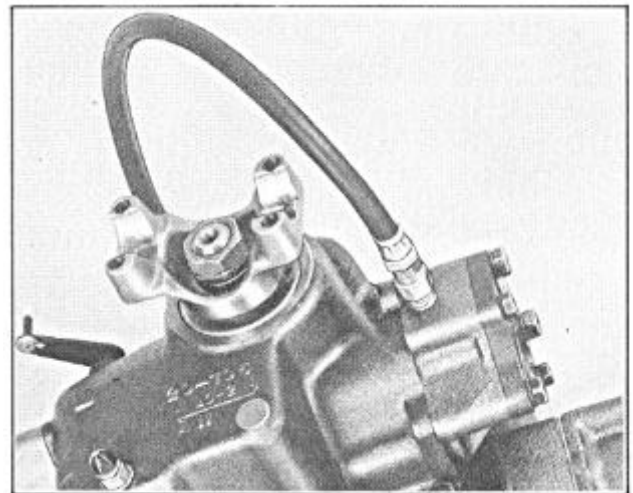

FIGURE 155
1. With the engine stopped, remove the 1/4" pipe plug from the rear oil pump. Install the pressure gauge fitting in the rear pump (2), Figure 155.